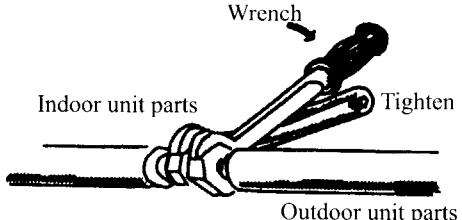

Fig 103
- (4) Tighten nuts with wrench (see Tab.36 for moment of force) until the wrench gives a crack (be careful don't make it too tight, or screw thread and nut of the joint may be damaged and cause leakage of refrigerant, see Fig.103).